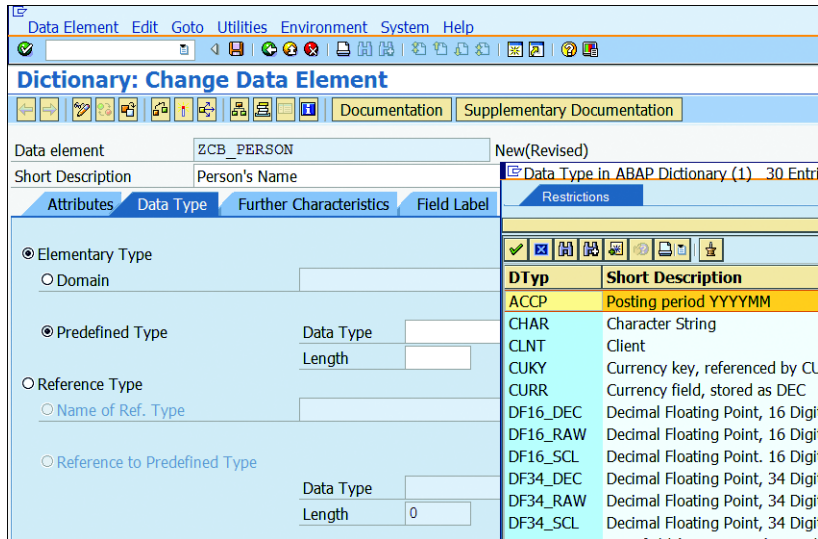

Figure 4.11 Data Type Value List
6. Because we plan to create a character data type, you can enter "CHAR" in the DATA TYPE field or select it by using **F4** help in the field (see Figure 4.11).